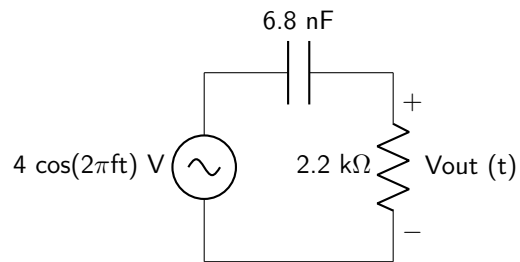

Figure 12.4: One of the mystery impedance box circuit diagrams.
6. Consider the circuit shown in figure 12.4.